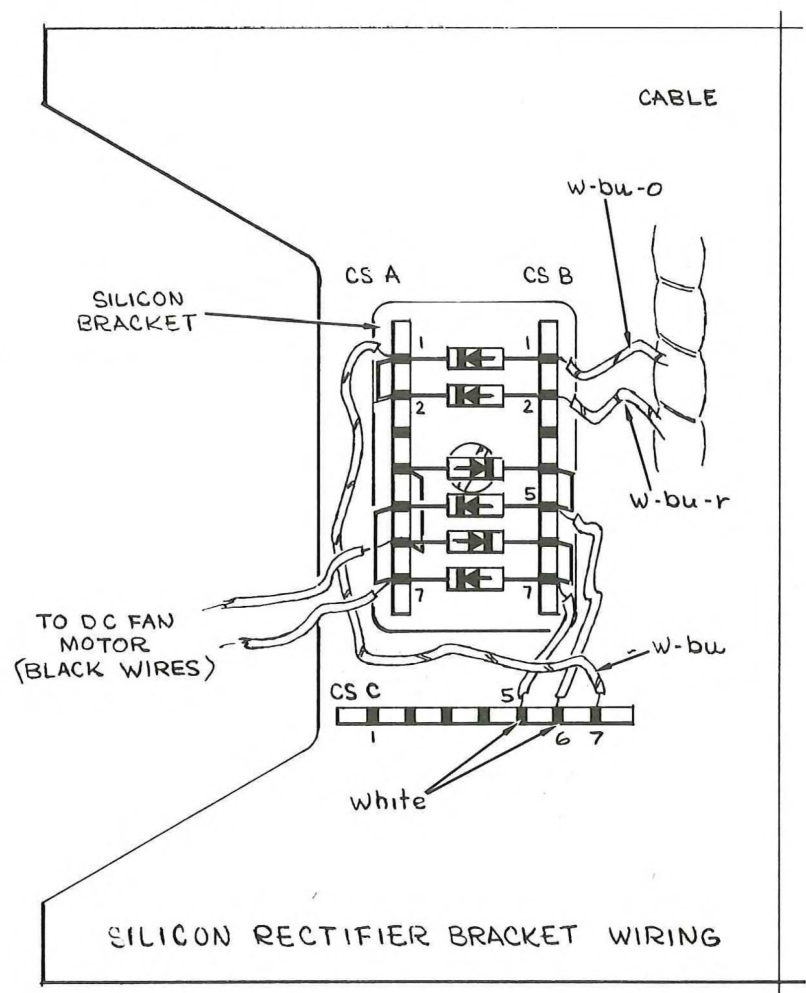

Fig. 2
- () 8. Install the silicon rectifier assembly (from kit) in the selenium rectifier mounting hole, using the #8 screw and lockwasher from the kit. Wire as shown in Fig. 2.